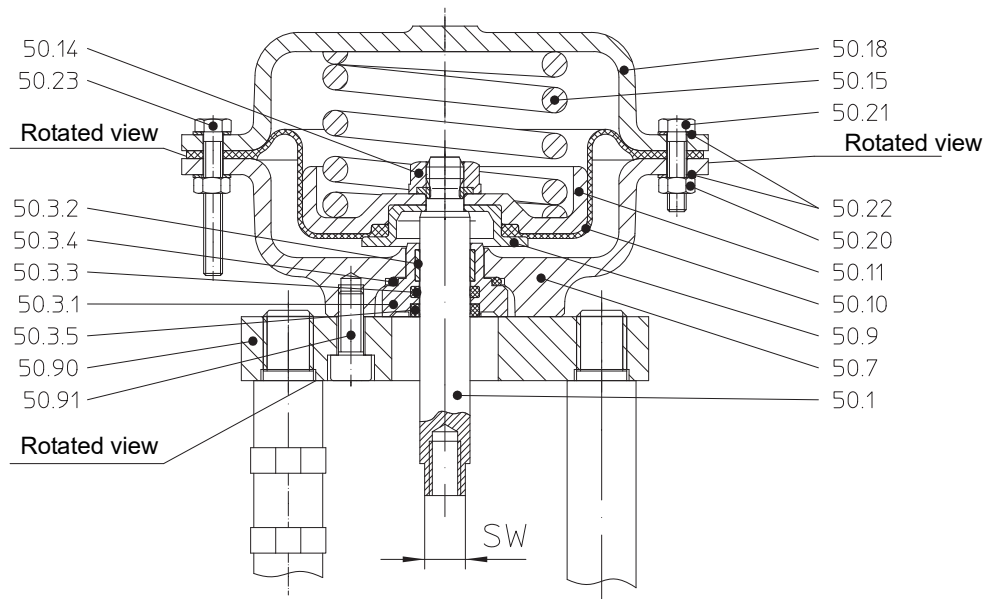

Fig. 6: Actuator for DN 25, 32
- The camber of the diaphragm plate (pos. 50.11) that is aligned with the hole in the rolling diaphragm (pos. 50.10) must also be exactly positioned over the air connection in the diaphragm base (pos. 50.7) (Fig. 6 and Fig. 7).
The flat of the stem (pos. 50.1) should still be easily accessible after the valve and actuator have been assembled (Fig. 6 and Fig. 7).
- Align the compression springs (pos. 50.15) centrally on the diaphragm plate (pos. 50.11).
- Fit the diaphragm cover (pos. 50.18) over the springs (pos. 50.15) and screw together (for tightening torques refer to section 7.7).